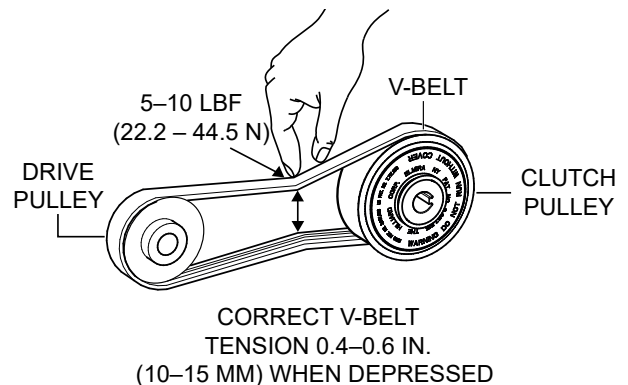

Figure 30. V-Belt Tension
3. When the V-belt is properly tensioned, it should deflect approximately 0.4–0.6 inches (5–10 mm) when 5 to 10 pounds of force are applied centrally between the clutch pulley and drive pulley (Figure 30).